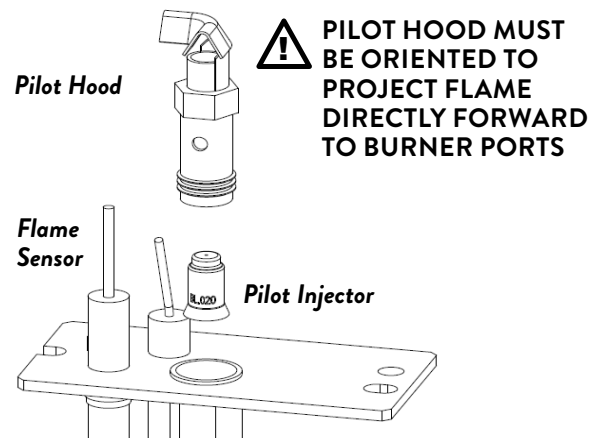

Figure 7.7 Replace pilot injector
6. **CHANGE THE PILOT INJECTOR, Fig. 7.7**